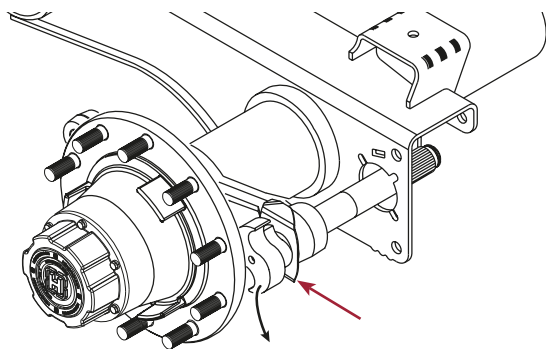

Figure 69: INTRAAX S-Cam & Washer Removal
1. Remove the S-cam and the Underhead cam washer from the outboard side of the spider (Figure 69).